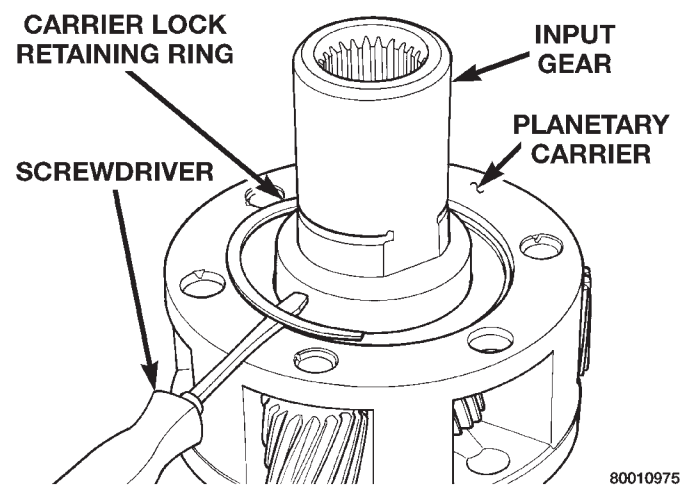

Fig. 33 Carrier Lock Retaining Ring Removal
(6) Remove carrier lock retaining ring (Fig. 33).